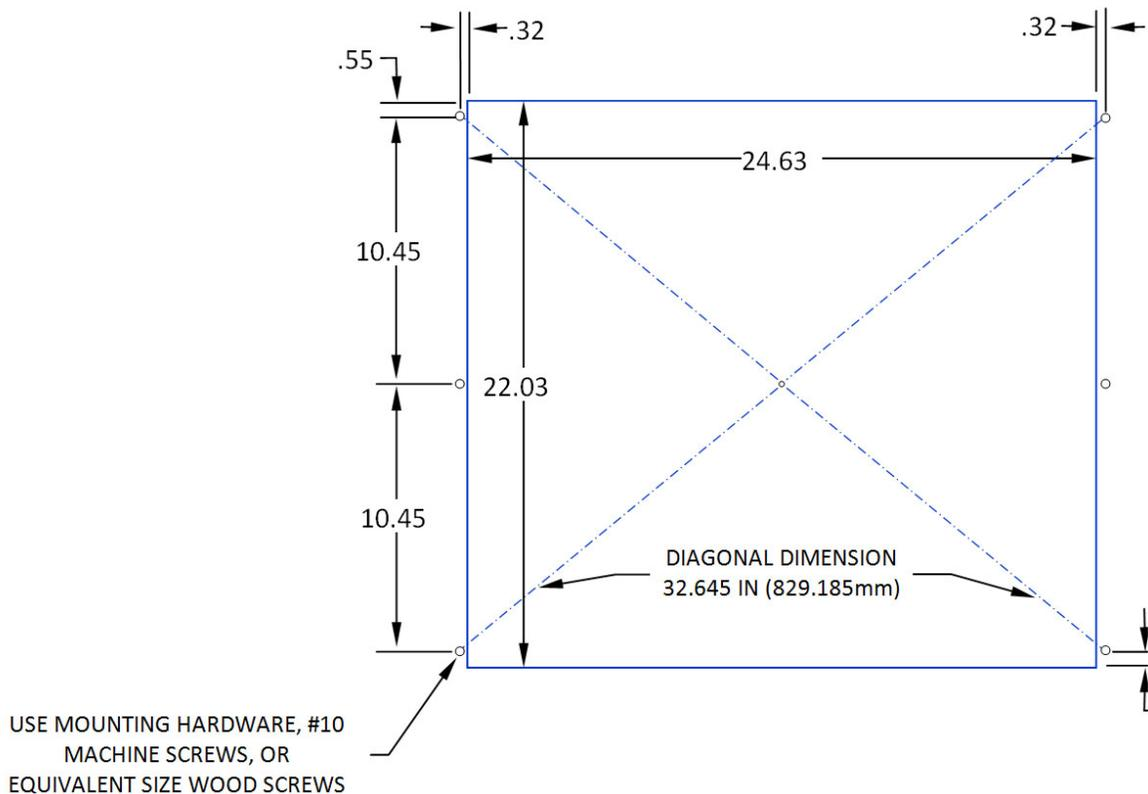
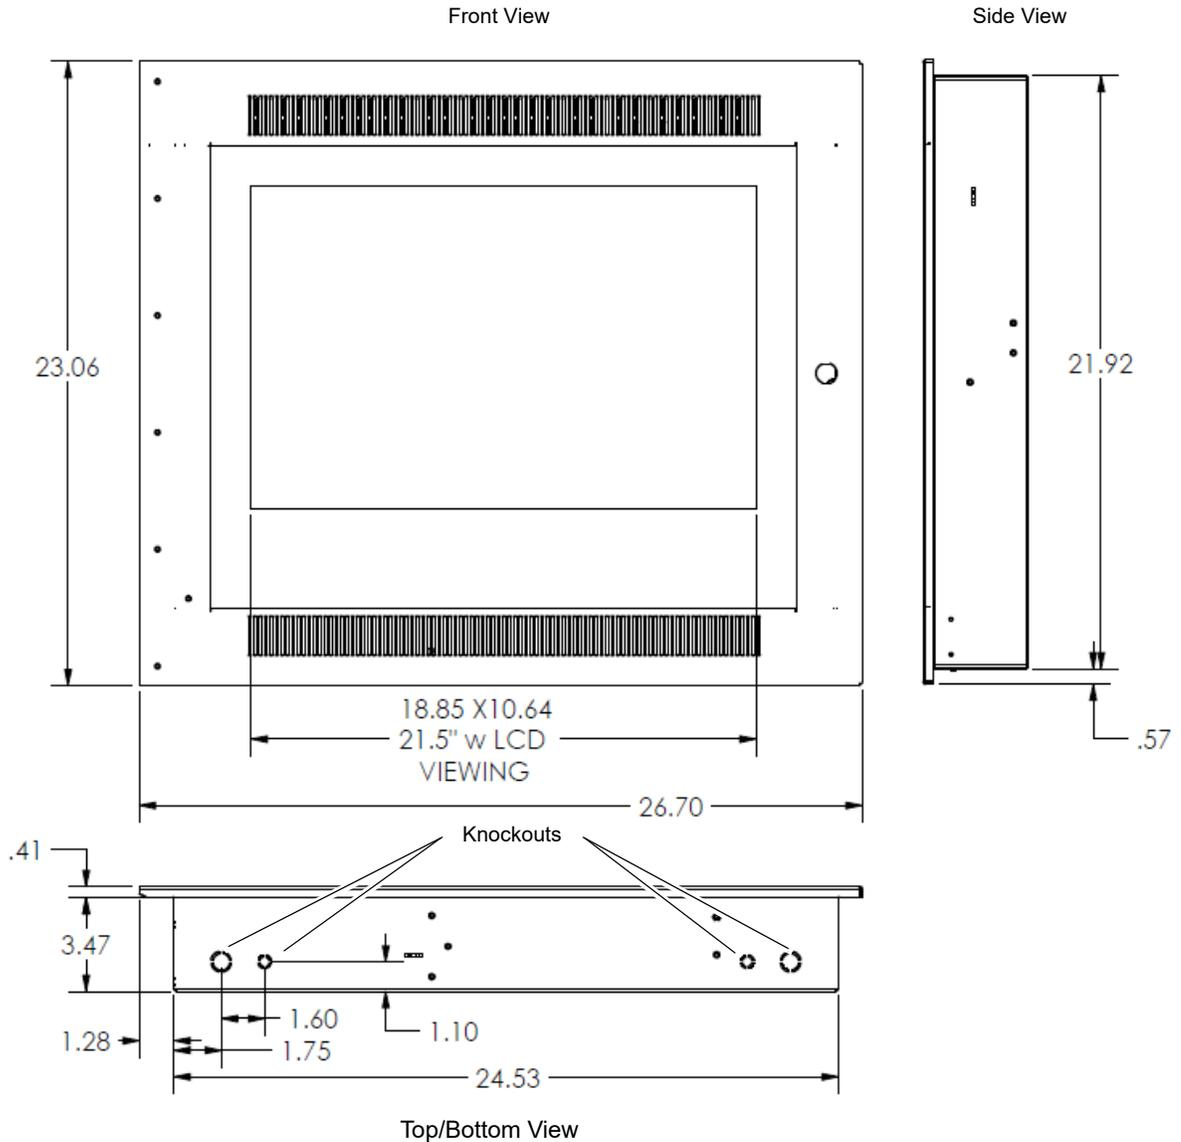
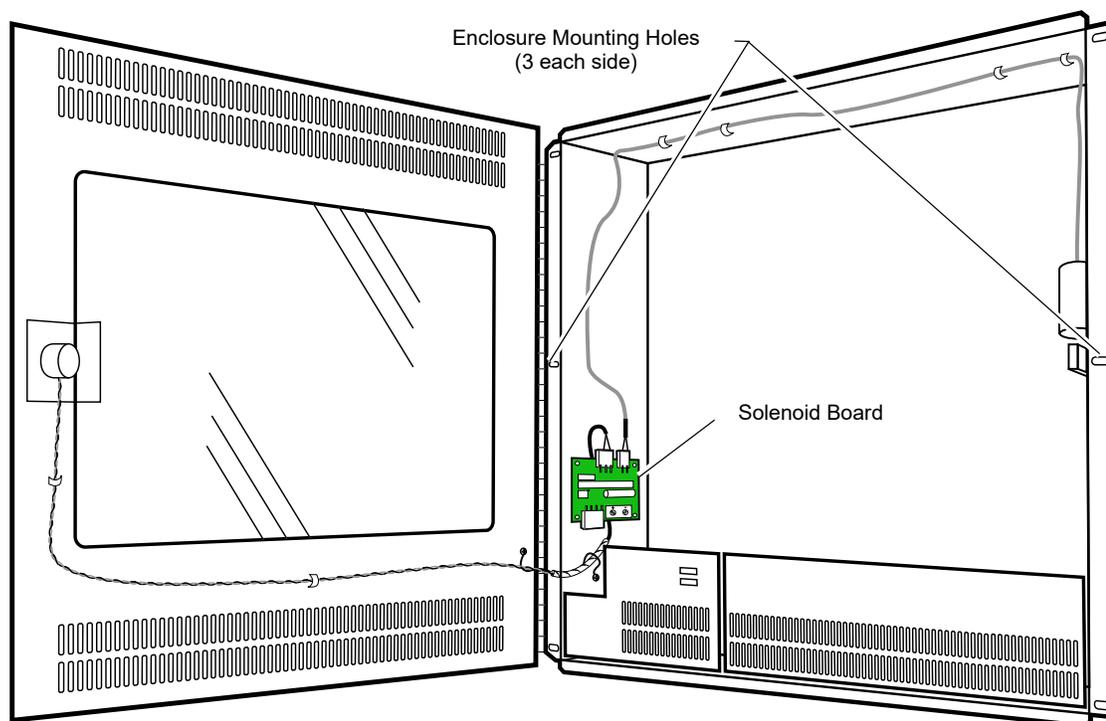

Figure 2.1 Wall Cutout Dimensions
Figure 2.2 Enclosure Dimensions
Figure 2.3 Enclosure Installed
1. Prepare a rough opening in the wall at the location the enclosure is to be mounted according to Figure 2.1. For enclosure dimensions, refer to Figure 2.2.
2. Remove the knockout(s) (see Figure 2.2) through which the external Ethernet and power supply cables will be routed. The power supply connections to the solenoid board are located inside the enclosure on the left-hand side (see Figure 2.3).
4. Verify that the enclosure is level and attach it to the wall using six customer-supplied fasteners (see Figure 2.3).